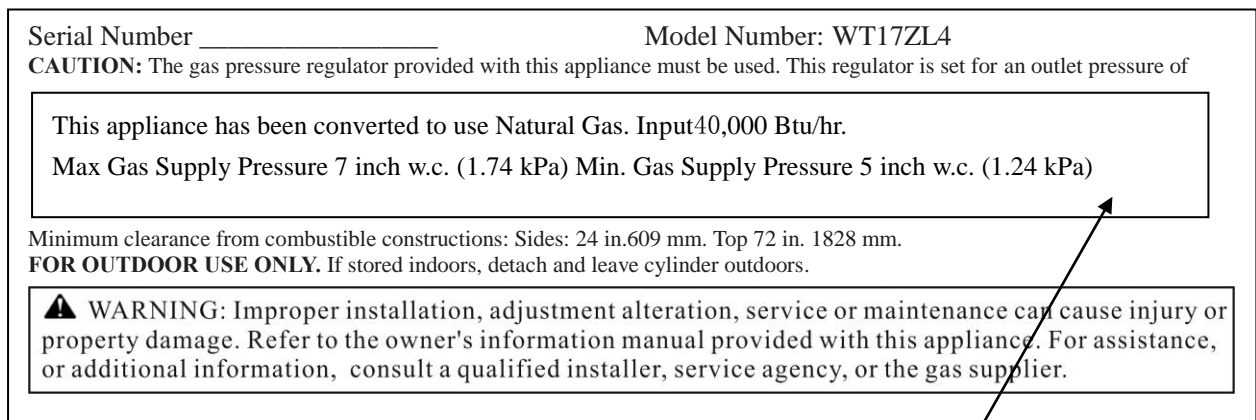

Figure 8
10. Stick the conversion label on the rating plate as shown in Figure 8.